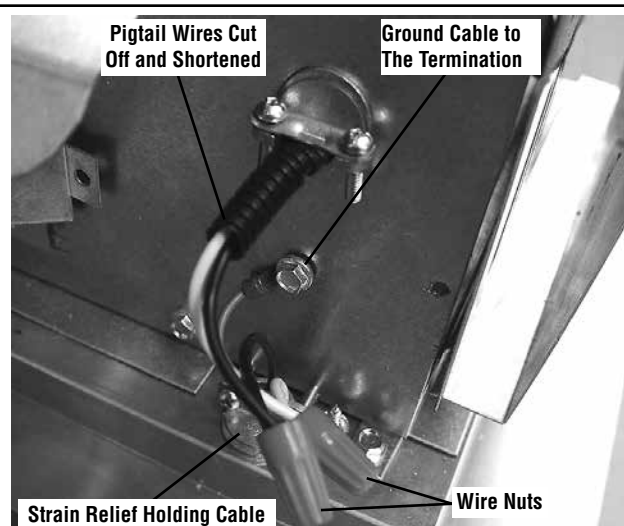

Figure 26 - Junction Box Cover Removed
- Refer to **Figure 26** and install the electrical hardware on the fireplace end of the cable. Male terminals (#10) on the Black and White wires, and ring terminals (#9) on the ground. The termination end of the cable will be connected to the termination with wire nuts (not provided).
- Refer to **Figure 26** to connect the three wires of the cable to the termination. Ensure the ground ring terminal is grounded beneath a structural screw as shown. Attach the junction box cover to the termination with the screw previously removed.